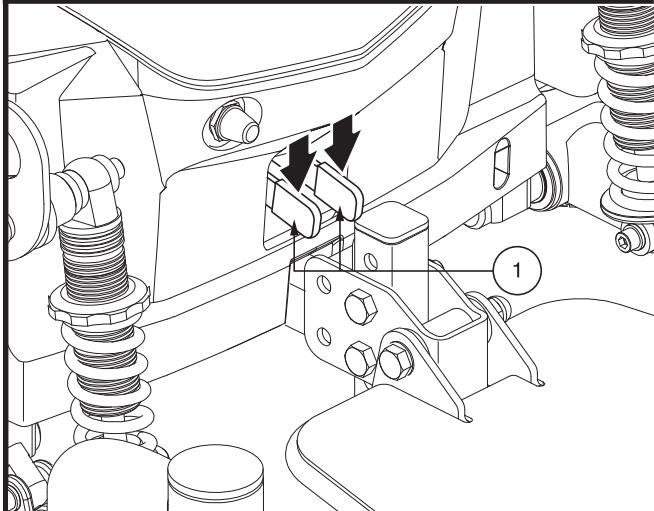

Figure 4. Drive Mode (Drive Engaged)
2. Push the two levers downward to engage the drive motors (drive mode). See **figure 4**.
2. Ensure the power chair is in drive mode. See **figure 4**.